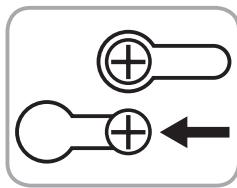

FIGURE 9
- Place LED Driver onto the screws and slide to secure in place (see Figure 9). If necessary, tighten screws to secure in place.